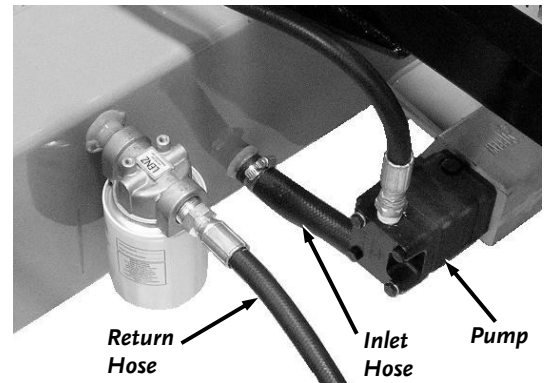

Figure 53
- Disconnect the return hose from the hydraulic fluid filter housing and place it in a waste fluid container (**Figure 53**). (Please properly dispose of the waste hydraulic fluid per local regulations.)
- Place a waste fluid container under inlet hose (**Figure 53**).
- a. Reconnect inlet hose to the pump (**Figure 53**).
- b. Reconnect return hose to the hydraulic fluid filter (**Figure 53**).